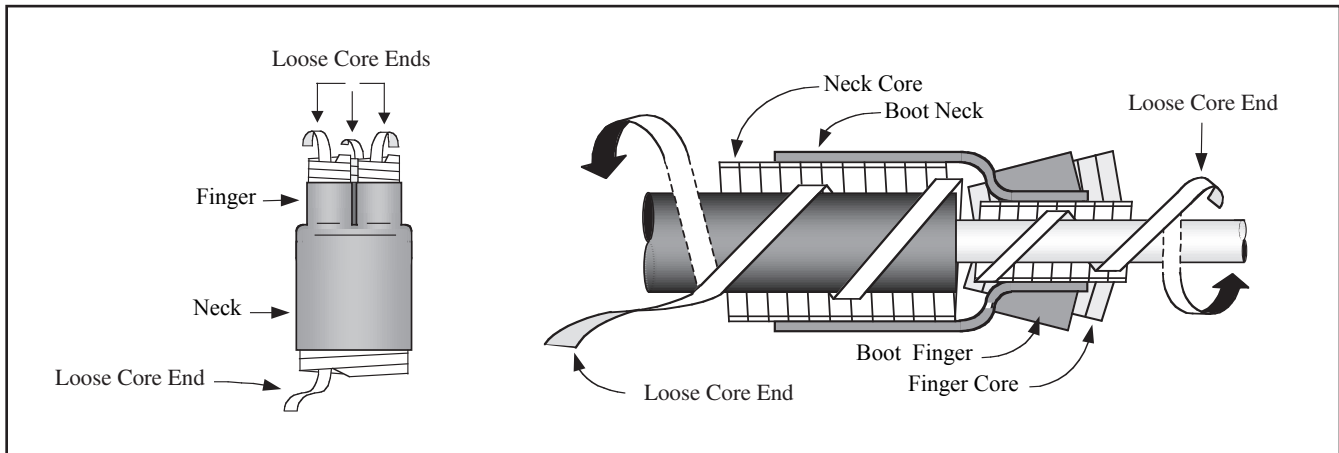

Figure 13
4.1 Inspect breakout boot assembly and confirm that all loose plastic core ends are free as shown (Figure 13).